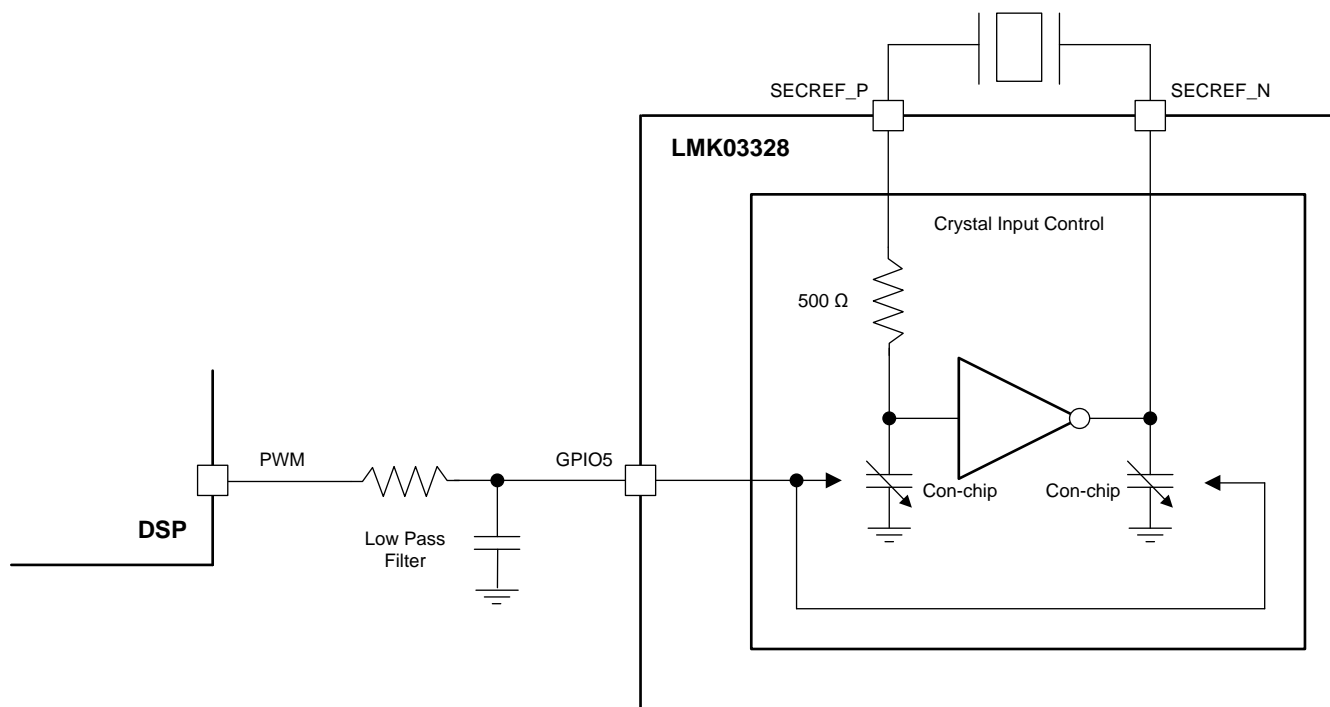

Figure 57. Crystal Load Capacitance Compensation Using PWM Signal
- The second method is using a low-pass filtered PWM signal to drive the 8-level GPIO5 pin as shown in Figure 57. The PWM signal could be generated from the frequency difference between a highly stable TCXO and the output of LMK03328 that is provided as a feedback into the GPIO5 pin and used to adjust the on-chip load capacitance on the crystal input to reduce frequency errors from the crystal. This is a quick alternative that produces a frequency error at the LMK03328's output and could be acceptable to any application when compared to a full-characterization with a chosen crystal to understand the exact load pulling required to minimize frequency error at the LMK03328's output. More details on frequency margining are provided in Application and Implementation.